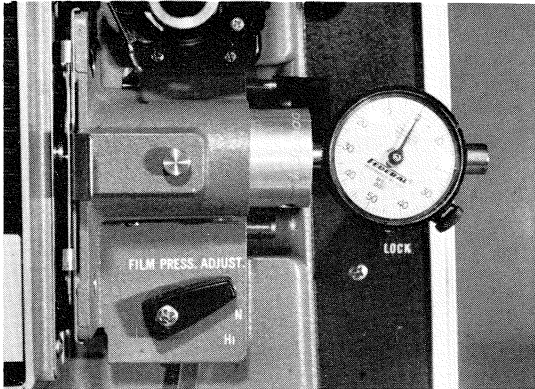

Figure 3-33. FILM PRESSURE ADJUSTMENT
2. Film Pressure (Figure 3-33)